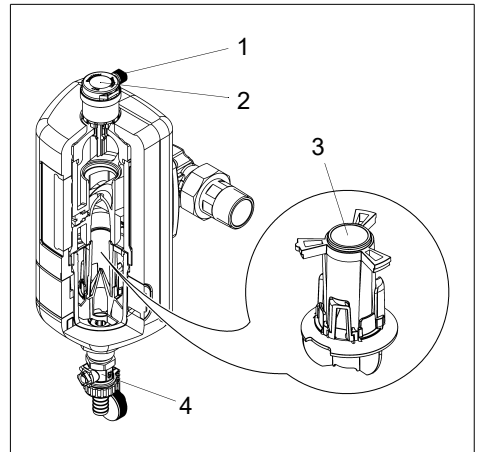

Fig. 5: Centrifugal separator
- The filter comes delivered with the cover cap (1) on the aeration unit (2) being open one turn to ensure air can be evacuated freely (see fig. 5).